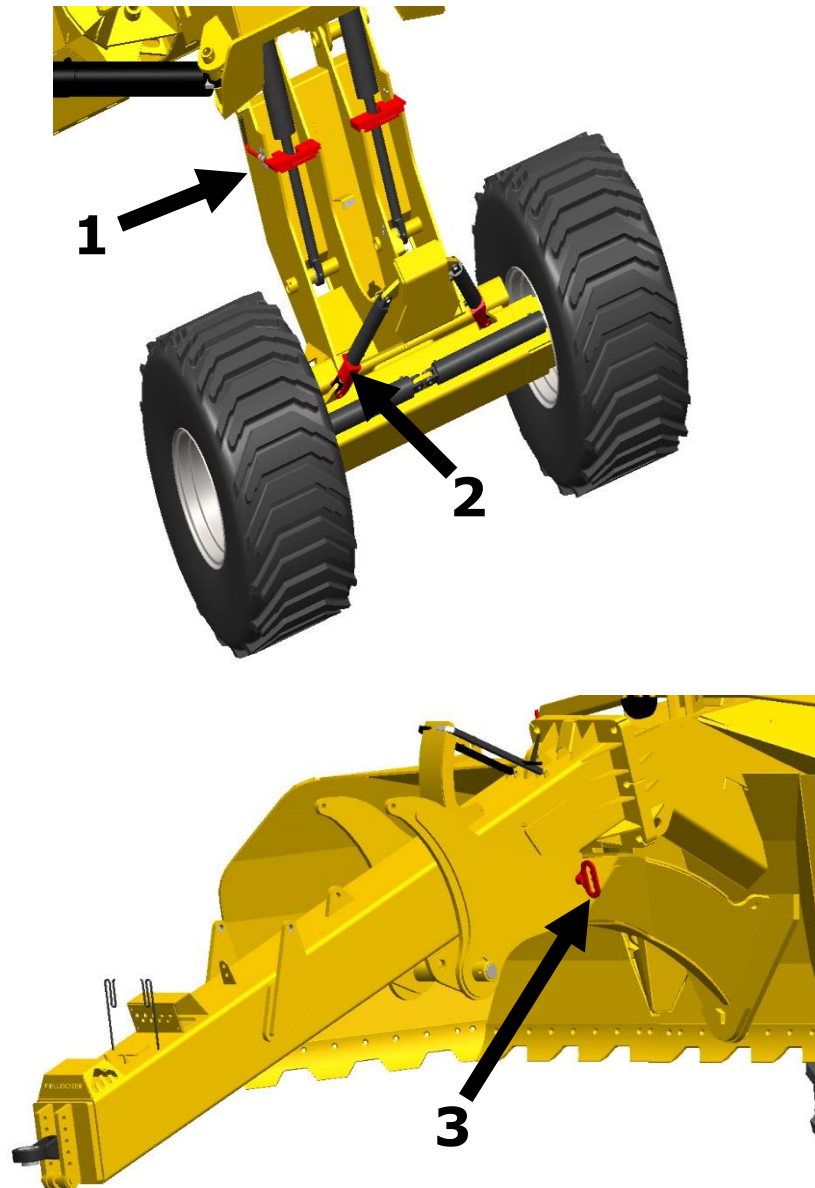

Figure 1: Shows the safety locks marked by arrows
When storing the 1870 Pulldozer Transformer make sure and apply the tilt cylinder safety locks, (2) in figure 1, and trencher safety lock (if equipped), (3) in figure 1. Put wood blocks underneath the blades so it doesn't sit in the ground and rust the blades. Apply grease to the wing hydraulic cylinder (6" x 32" x 4") shafts to prevent shafts from rusting when not in use for a long period of time.